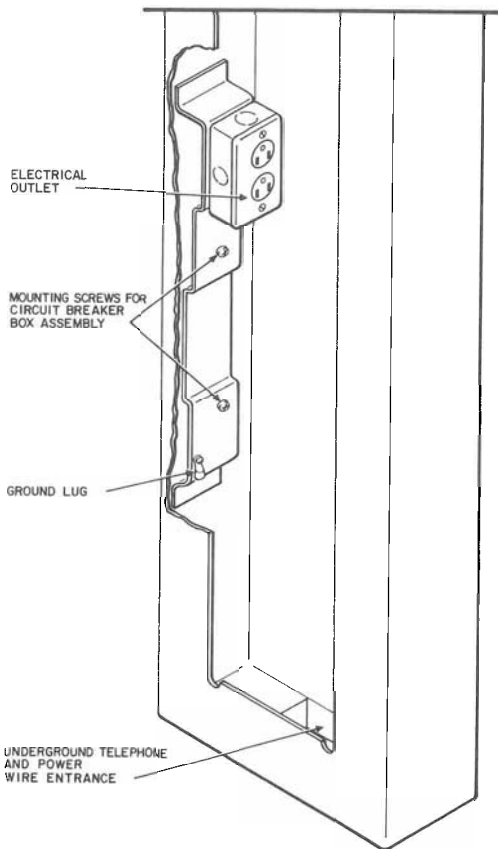
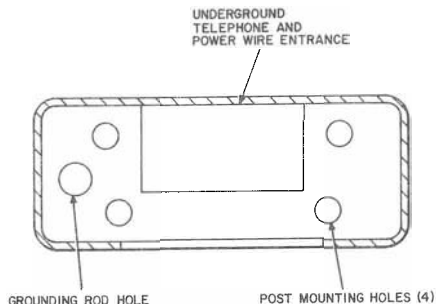
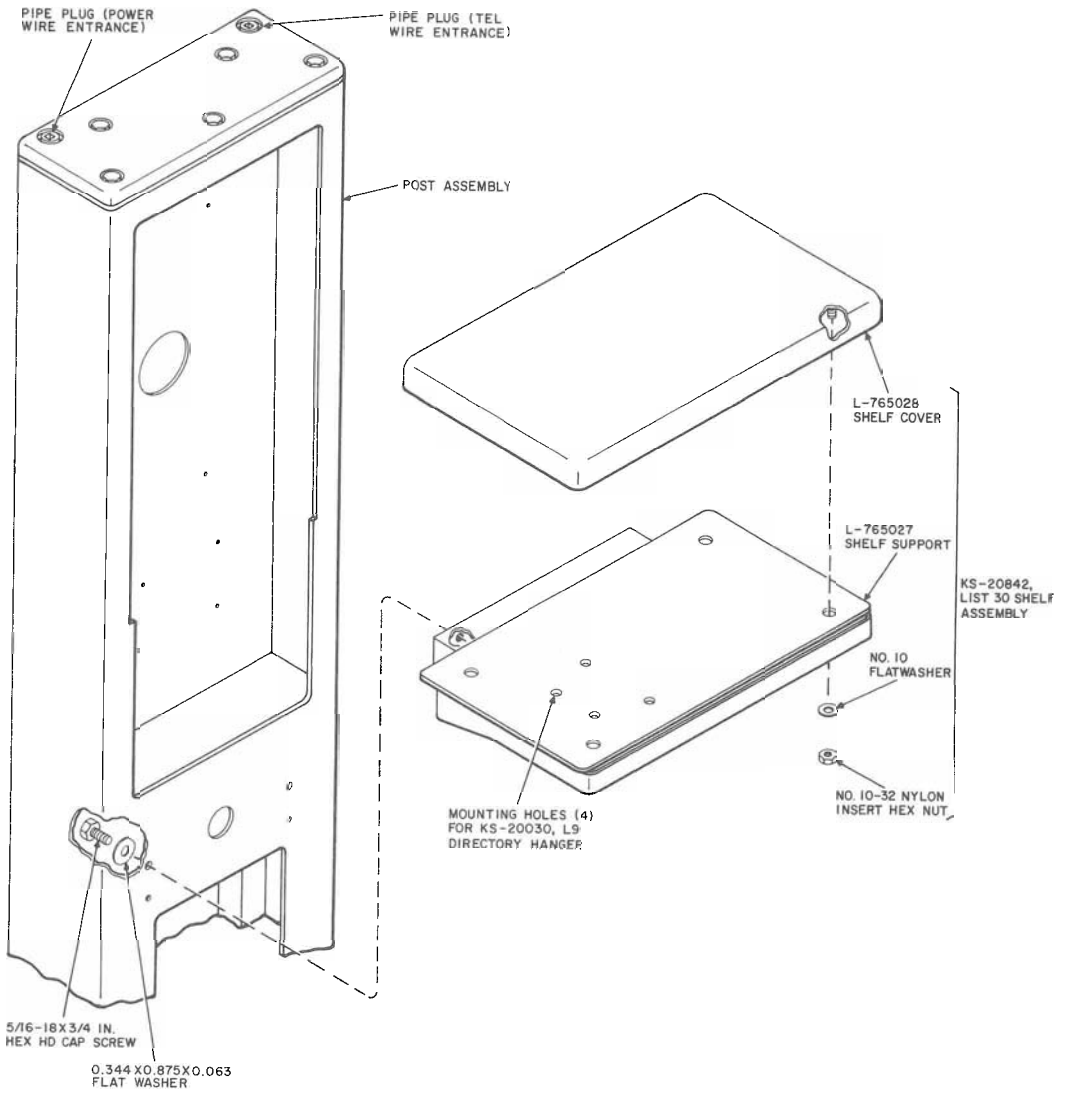
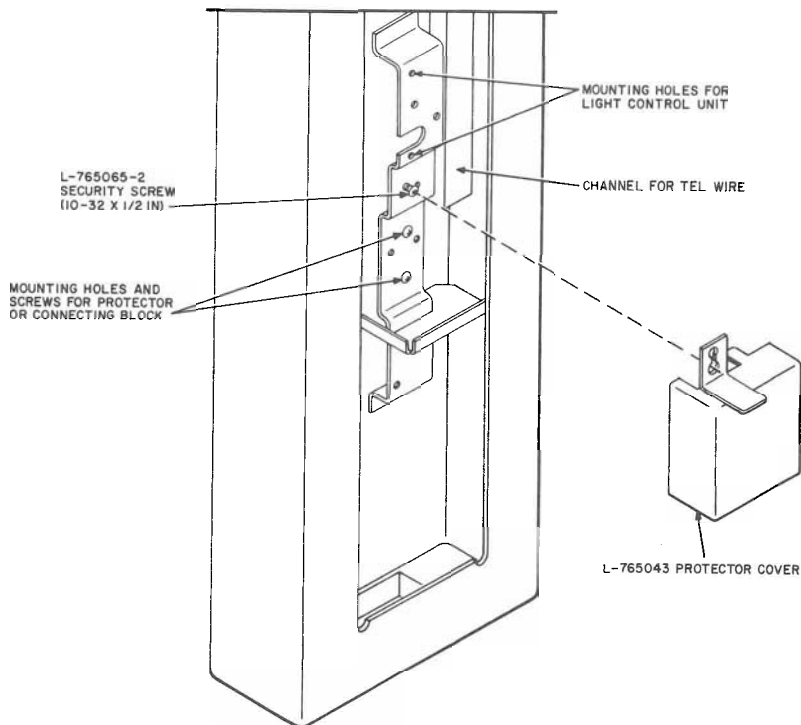

Fig. 4—Outlet for Terminating Electrical Service
Fig. 5—Layout of Holes in Bottom of Post
Fig. 6—Installation of List 30 Shelf on Post
Fig. 7—Location of Station Protection
2.16 Electrical service terminates in an electrical outlet located on the lower left inside of post (Fig. 4). The power wiring feeds up through a rectangular entrance hole when coming from below ground level (Fig. 5) or follows a channel down the left side of the post when entering from overhead (Fig. 6).
optional circuit breaker box when required (Fig. 4). The following items must be ordered separately:
2.18 A lug (Fig. 4) is provided below electrical outlet for connecting the ground wires.
from the base. Align the four mounting holes in bottom of post (Fig. 5) with holes in base (Fig. 9) and using the removed hardware, install the post assembly to the base.
- (1) If the front panel is installed on the post, remove the panel as outlined in 3.03(9).
- (2) Remove two 5/16-18 by 3/4 hex head cap screws and two 0.344 by 0.875 by 0.063 flatwashers from the rear of the shelf assembly.
- (3) Align the holes in the rear of the shelf with the mounting holes on the front of the post (Fig. 6). Using the screws and washers removed in (2), reach in through the opening under the shelf, and insert the screws through the post and into the rear of the shelf. Tighten the screws to secure the shelf
- 3.07** Telephone wire entrance holes are located on the top-right side (Fig. 6) and lower-inside of post (Fig. 5).
Note: When the underground wire entrance is used, install flexible conduit between the studs in the mounting surface and the bottom of the protector access cover (Fig. 7).
Note 2: When the overhead entrance is used and the protector is located in the lower part of the post, the wire must feed down channel (Fig. 7) to the protector and back up to the wire exit hole in the recessed area. Remove the pipe plug (Fig. 6) on top of the post to gain access to the wire conduit.
3.11 If the entrance is made from the top, remove the top-left pipe plug (Fig. 6), feed the wiring down the channel in the left side, and terminate at the electrical outlet located inside, lower-left of the post on a mounting bracket (Fig. 4).